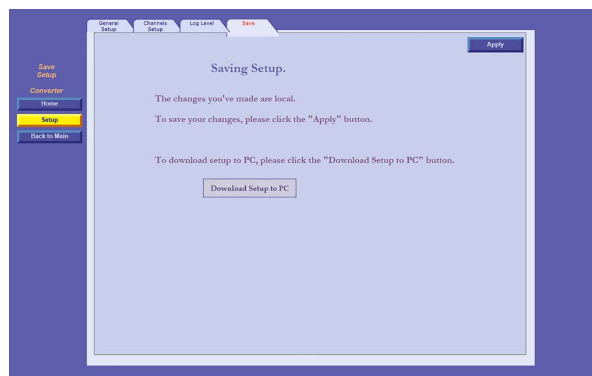

Figure 5-32 - Save Tab
1. Click on the **Save** tab. The following screen appears (see Figure 5-32):